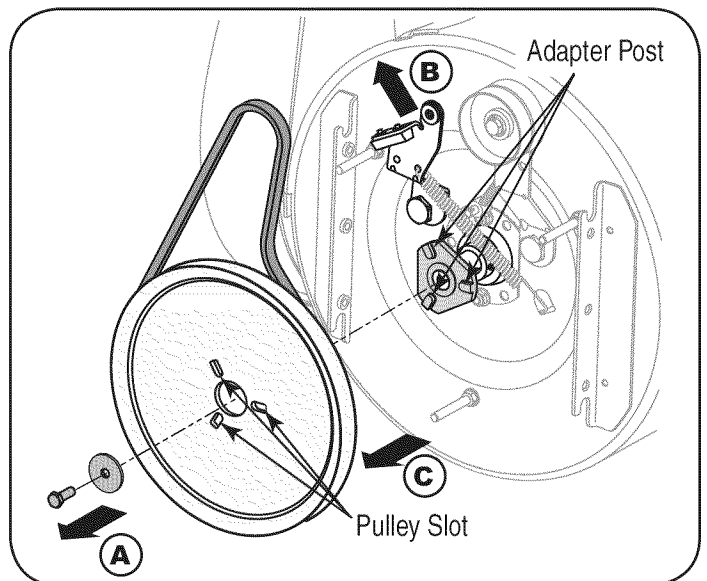

Figure 29
6. Block the impeller with a piece of wood to prevent it from spinning and use a 1/2" wrench to remove the hex screw and flat washer from the center of the pulley on the auger housing. See Figure 29.
7. Lift the brake bracket assembly out of the pulley groove and slide the pulley assembly off the posts of the auger pulley adapter to remove the old belt. Refer to Figure 29.
9. Turn the pulley as necessary to align its three slots approximately with the posts of the pulley adapter, then move the brake bracket assembly away from the input shaft. While aligning the pulley slots and adapter posts, push the auger pulley fully onto the adapter. Refer to Figure 29.
**NOTE:** If the pulley adapter was removed with the pulley, align the splines of the pulley adapter and auger input shaft, and push the pulley and adapter onto the input shaft. Refer to Figure 29.